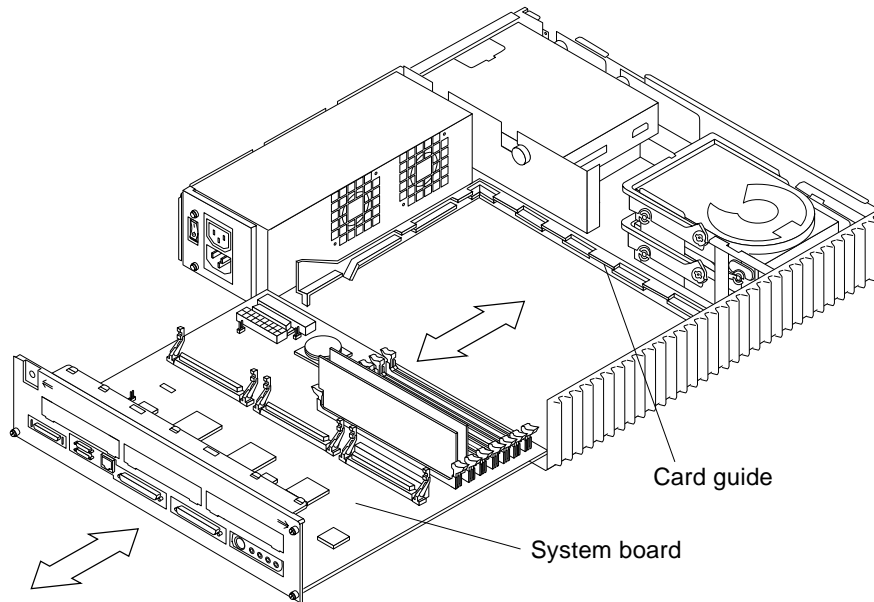

FIGURE 9-21 Removing the System Board
6. Pull the board out of the back of the chassis until it clears the plastic card guide. Place the board on an antistatic surface. See FIGURE 9-21.